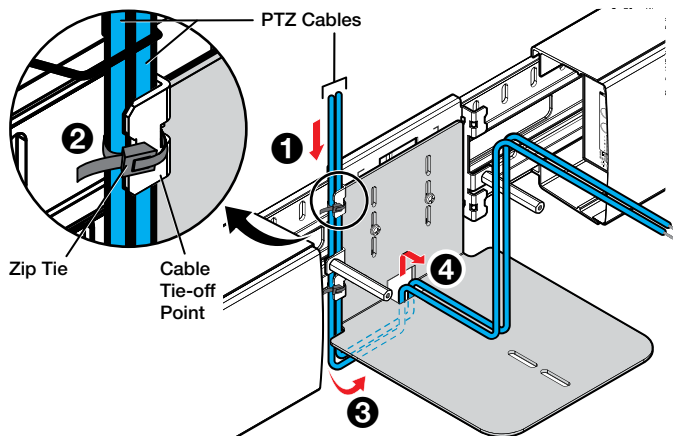

Figure 20. Routing the PTZ Camera Cable
- a. Route the PTZ cable to the PTZ camera through the center section cover (see figure 20, **1**) and along a center bracket cable tie-off point (**2**).